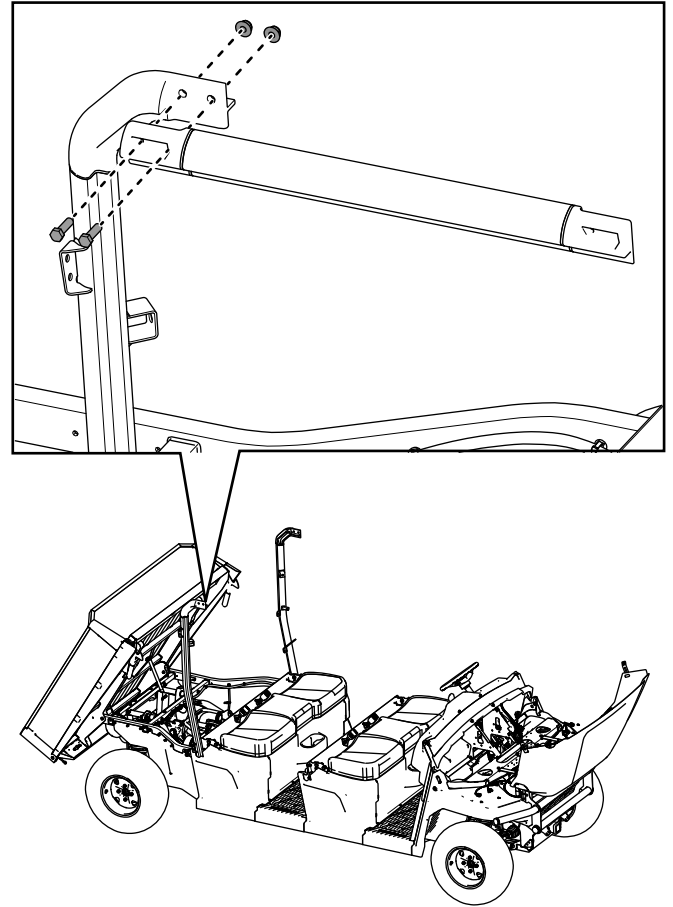

Figure 43
- Loosely secure the right roll bar connector assembly to the right, rear roll bar assembly using 2 hex-head bolts (3/8 x 1-1/4 inches) and 2 locknuts (3/8 inch) as shown in Figure 43.